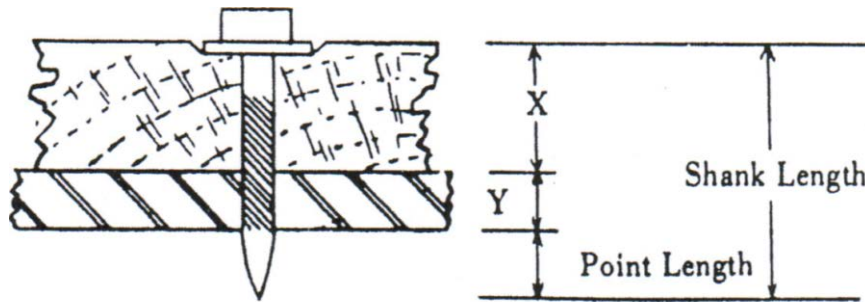

Fig. 25
Drive Pins - To select the proper shank length, determine the total thickness of the material to be fastened (X), the thickness of the steel into which the pin will be driven (Y) plus the point length. A total of X, Y and the point length is the proper shank length (Fig. 25).